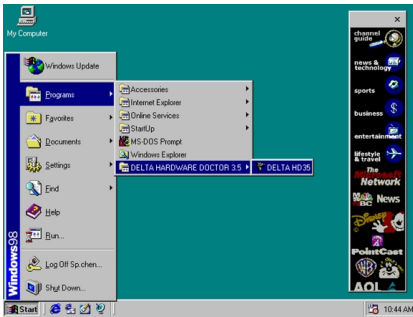

Figure 6
- The “DELTA HARDWARE DOCTOR 3.5” option will be added to the “Programs” directory. Click on the “DELTA HARDWARE DOCTOR 3.5” icon to access the program, the following screen will appear Figure 6.